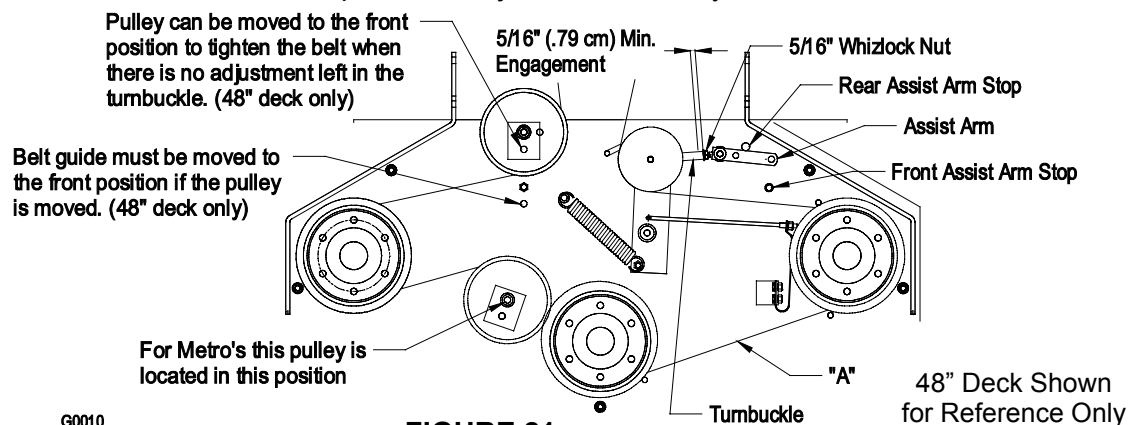

FIGURE 21
- b) Check the adjustment of the lower blade drive linkage located between the bellcrank on the engine deck and assist arm on the mower deck. Lengthen or shorten the linkage. When properly adjusted, there should be 1/16" to 1/8" (2 – 3 mm) of clearance between bell-crank and transmission output shaft when belt is engaged. Make sure the assist arm is against the rear assist arm stop on the deck (See Figure 21). Push the lever down to the disengaged position. The assist arm should contact the front assist arm stop on the deck. If it does not contact, readjust so that the bellcrank is closer to the transmission output shaft.
- c) Belt must be tight enough to not slip during heavy loads while cutting grass. Overtensioning will reduce belt and spindle bearing life. To adjust belt tension, loosen the 5/16" whizlock nut on turnbuckle and rotate the turnbuckle; rotate turnbuckle toward rear of mower to tighten, and toward front of mower to loosen belt tension (See Figure 21). Leave a minimum of 5/16" (.79 cm) of the eyebolt threads engaged on both ends of the turnbuckle.
For 48" Decks: If there is no adjustment left in the turnbuckle and the belt is still loose, the rear idler pulley can be repositioned in the front hole (See Figure 21). The belt guide located next to the pulley must also be repositioned in the front hole when the pulley is moved. The turnbuckle will need to be readjusted.
- d) Proper belt tension will require about 10 lbs. side pull on belt, halfway between pulleys (See Figure 21, Point A) to deflect belt 1/2" (12 mm).